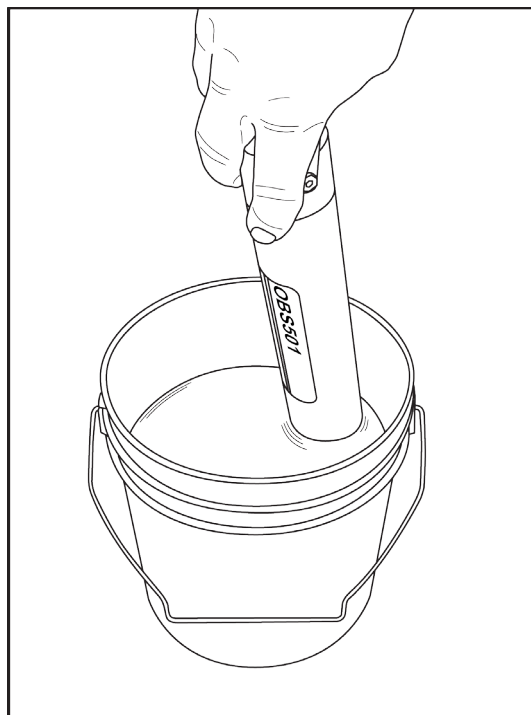

FIGURE 8-4. OBS501 in 500-TU AMCO Clear® turbidity standard in 100-mm black polyethylene calibration cup
3. Position the OBS501 in the cup or bucket as shown in FIGURE 8-4 and record the average output on the calibration log sheet.